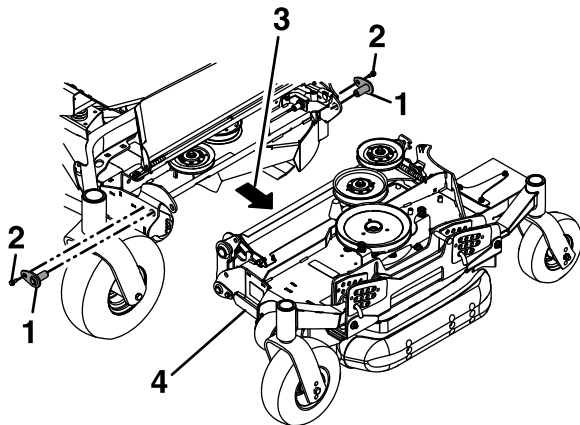

Figure 86
12. Remove and retain the bolts that secure the upper pivot pins to the deck and then remove the pivot pins (Figure 86).
13. Pull the wing deck outward to separate it from the center deck section (Figure 86).
Align and install the upper pivot deck pins in the front and rear of the deck and secure it using the previously removed bolts (Figure 86).